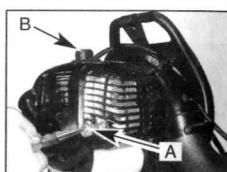

Fig. 26
2. Spark plug gap = .025 in. (.635mm) (Fig. 26).
1. To replace spark arrestor screen/collar assembly (A) (Fig. 26), use a needle nose pliers and pinch an edge of the collar. Pull out the whole spark arrestor screen assembly.